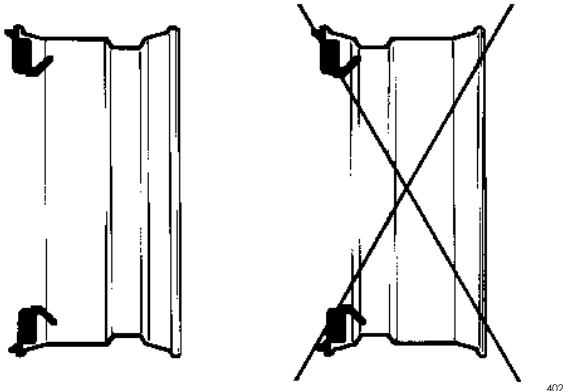

Fig.16
10. Press the Emergency STOP button (#2 Fig.16): this renders all controls inoperative. Turn the emergency knob counter-clockwise and press the reset button located on the electric cabinet to resume normal working conditions.
THE DROP CENTER OF THE RIM (WHEN IT EXISTS) MUST BE KEPT TOWARDS THE OUTSIDE OF THE MACHINE (Fig.16).